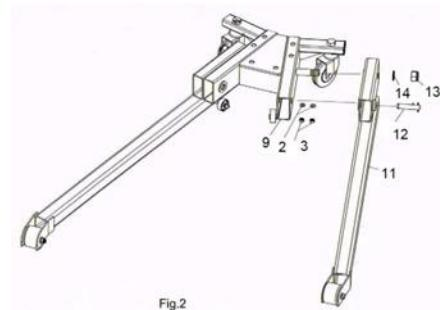

Fig.2
Secure the 2 parts of the frame 11) to the base (9) using the pins (12), flat washers (2) and lock nuts (3), and screw them into the base with lock nuts (13) and washers (14) as shown in figure 2.